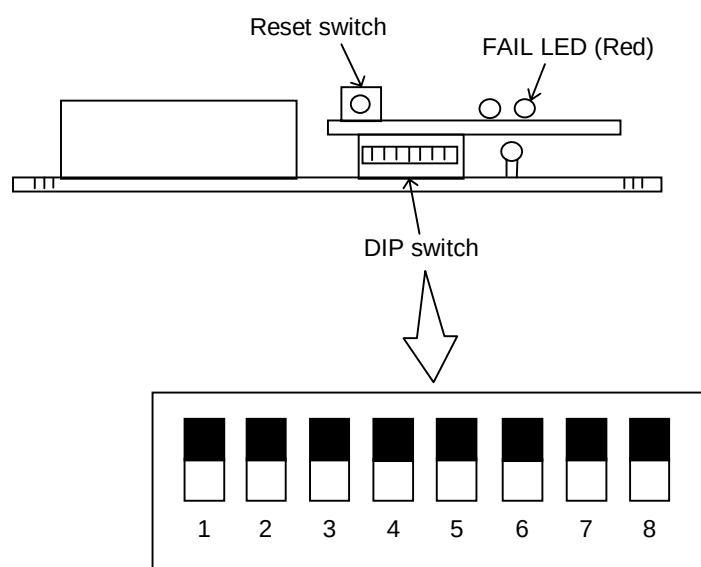

Figure 14.3 Replacing LAN ASSY (3)
(1) Procedure
- ① Open side cover 1 side cover 2. (See CK-REP0160.)
- ② Disconnect the cable (RS232C).
- ③ Set No.8 DIP switch of the corresponding CTL ASSY.
- ④ Push the reset switch of the corresponding CTL ASSY.
- ⑤ Wait ten seconds, check to see that the FAIL LED on the CTL ASSY comes on and it enters the blocked state. (See Figure 14.3.)
- ⑥ Open the right and left levers to the direction of arrows (→) at the same time then remove the CTL ASSY.
- ⑦ Remove the LAN ASSY by pulling it upward. Then mount a new LAN ASSY by aligning its mounting holes with the card spacers and pressing the LAN ASSY against the spacers until it is latched with clicks.
- ⑧ Set No.8 of DIP switch to as shown.
- ⑨ Reinstall the CTL ASSY.
- ⑩ Close the side covers 1 and 2. (See CK-REP0160.)